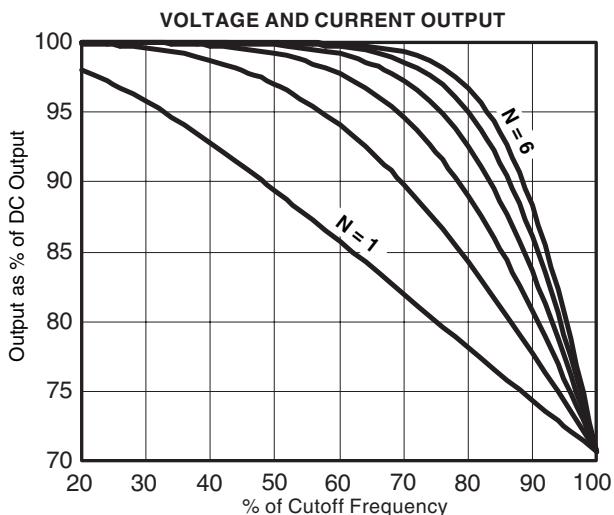

FIGURE 4. REDUCED V & I AS FSIGNAL APPROACHES Fc
3. Filter attenuation at 100% of cutoff frequency is 3db, that is, a factor of 0.707 for voltage output (and consequentially, current) and 0.5 for power output. Refer to Figures 4 and 5 for more data on attenuation as signal frequency approaches cutoff frequency. Designing the cutoff frequency at least twice the actual maximum signal frequency is a very common technique to obtain a flatter response in the portion of the